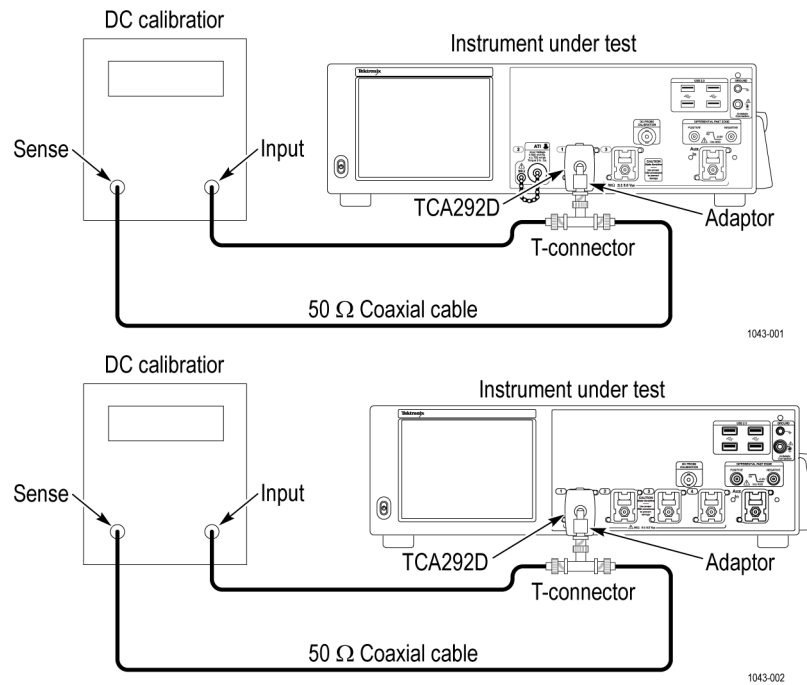

Figure 8: DC voltage accuracy test hookup
- Connect the output of a DC calibration generator. (See Figure 8: DC voltage accuracy test hookup on page 84.)